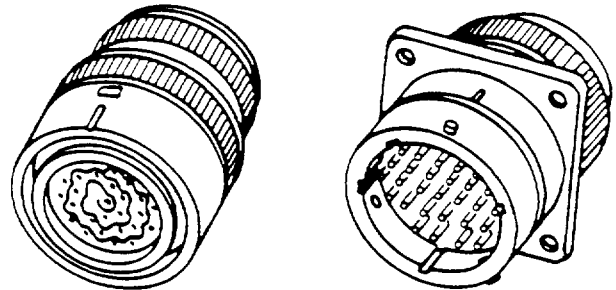

Figure 10. Typical Bayonet Coupling
17. **Bayonet.** The bayonet system (Figure 10) employs three pins spaced 120 degrees apart on the outside perimeter of the receptacle. The coupling ring of the mating plug contains three corresponding ramped grooves and a spring loaded device that provides a positive lock.